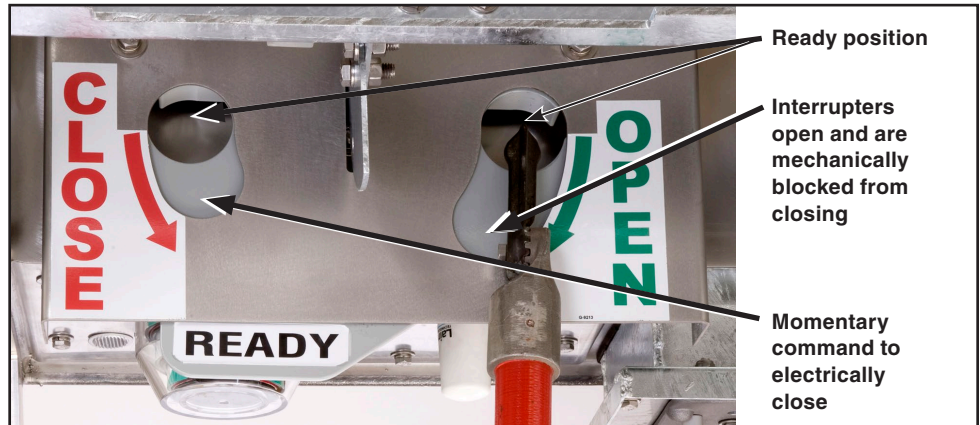

Figure 3. Opening and closing the interrupters with a hookstick.
- STEP 1.** Insert a hookstick into the hole in the right section of the OPEN/CLOSE/READY lever. See Figure 3 on page 9.
- STEP 2.** Insert a hookstick into the hole in the right section of the OPEN/CLOSE/READY lever. See Figure 3 on page 9.